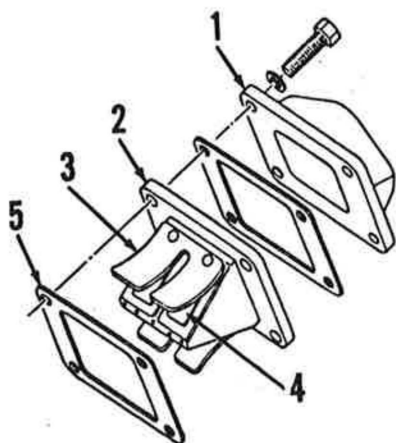

Fig. Y19-16—View of typical reed manifold assembly.
Inspect reed petals (4—Fig. Y19-16) for cracks or tears. Petals should be renewed if any flaws are detected. Curve of reed stopper plate (3) should be smooth and free of kinks or rough spots. Check rubber coating on reed block (2) for cracking or peeling. Height (A—Fig. Y19-17) of reed stopper should be 9.3-9.6mm (0.36-0.38 in.). When reassembling unit, place corner of reed petal with notch (N—Fig. Y19-18) beneath corner of reed stopper plate with flat (F).